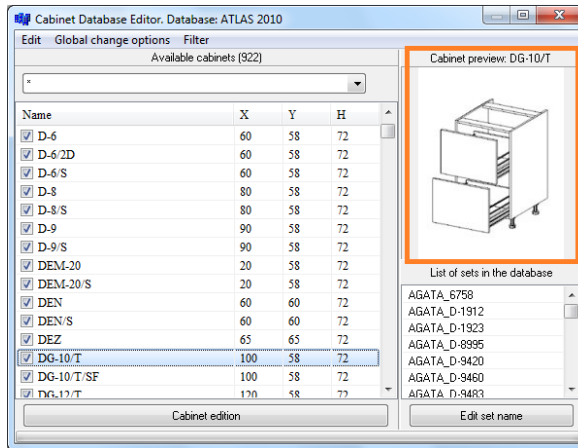

Fig. 160 – cabinet preview
- **Preview** – when you click on a position on the list of cabinets, the preview of the cabinet will be displayed in the upper right corner of the window (Fig. 160).